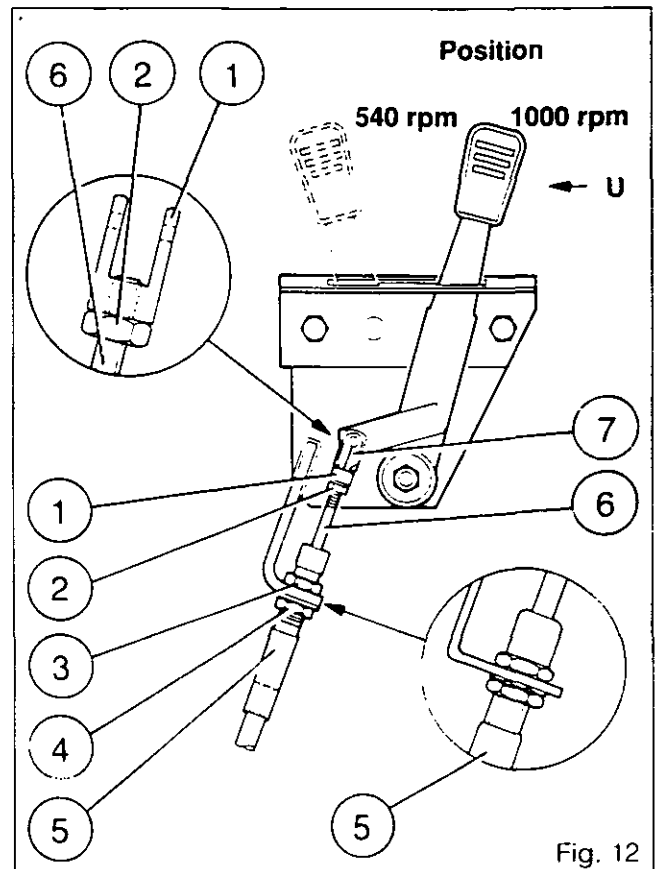
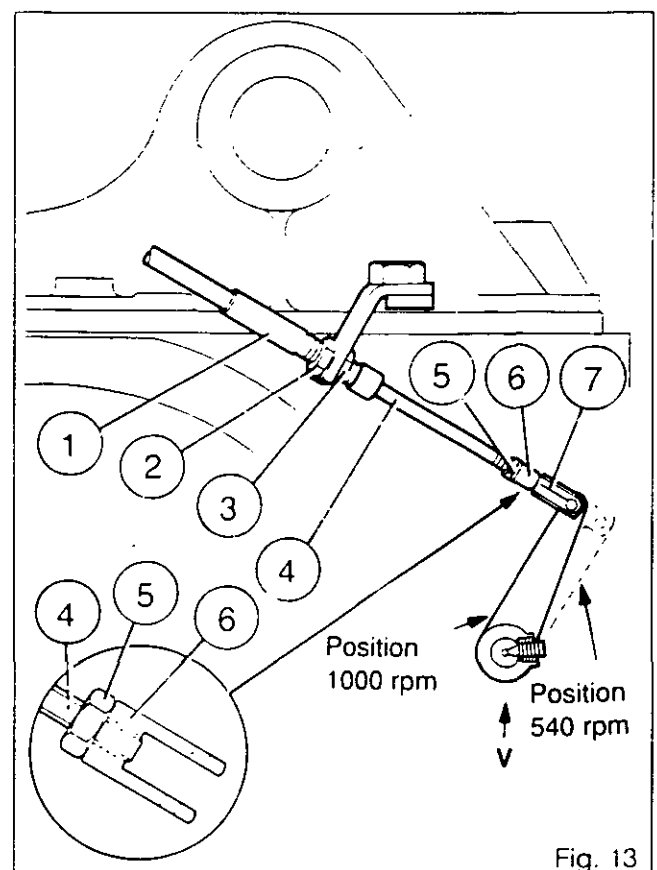

Fig. 12
Fig. 13
Smear Loctite 542 on the exterior of the seal and using a suitable device, fit it against the shoulder of the cover (14) (Fig. 12). The double lip should face towards the roller cover (10).
48. Screw the clevis (1) until it reaches the end of the threaded part of the cable (6) (Fig. 12).
49. Fit the clevis (1) on the U-rod with the clip (7). Tighten the nut (2).
50. Adjust the outer cable stop (5), with the nut (3) reaching the end of the threaded part.
51. Tighten the nut (4).
52. Set the lever V to the «1000 rpm» position (Fig. 13).
53. Screw the clevis (6) until it reaches the threaded part of the cable (4).
54. Temporarily fit the clevis (6) on the lever V with the clip (7).
55. Adjust the outer cable stop (1), ensuring that the lever V is still in the «1000 rpm» position.
56. Tighten the nuts (2) and (3).
57. Set the adjustment with the clevis (6), tighten the nut (5).